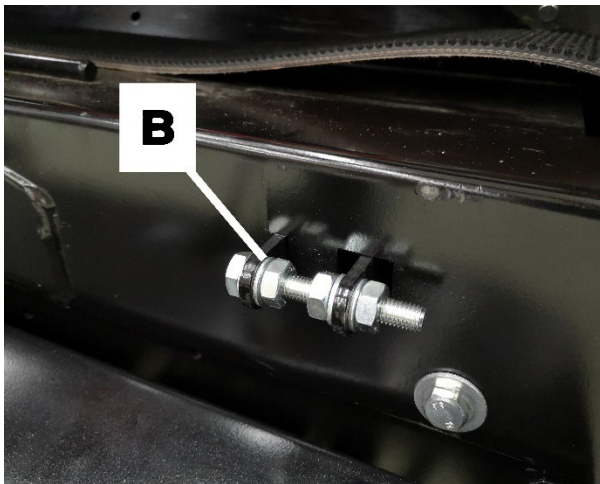

Figure 15
- ❑ The drive and return rollers of the in-feed conveyor are equipped with scrapers A, Fig. 15, which keep the rollers clean at all times. For example, in winter snow does not pack on the rollers.